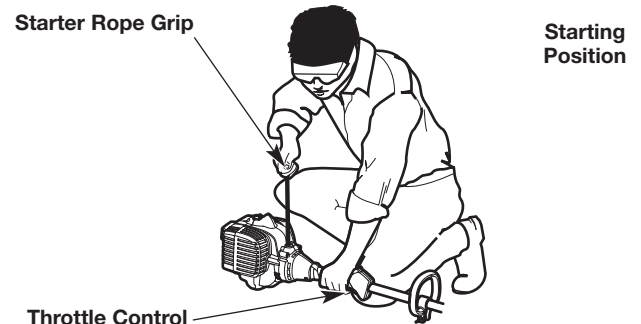

Fig. 12
WARNING: Avoid accidentally starting the unit. To avoid serious injury, the operator and the unit must be in a stable position when pulling the starter rope (Fig. 12).
5. Crouch in the starting position (Fig. 12).
6. Squeeze and hold the throttle control. Pull the starter rope with a controlled and steady motion **5 times** (Fig. 12).